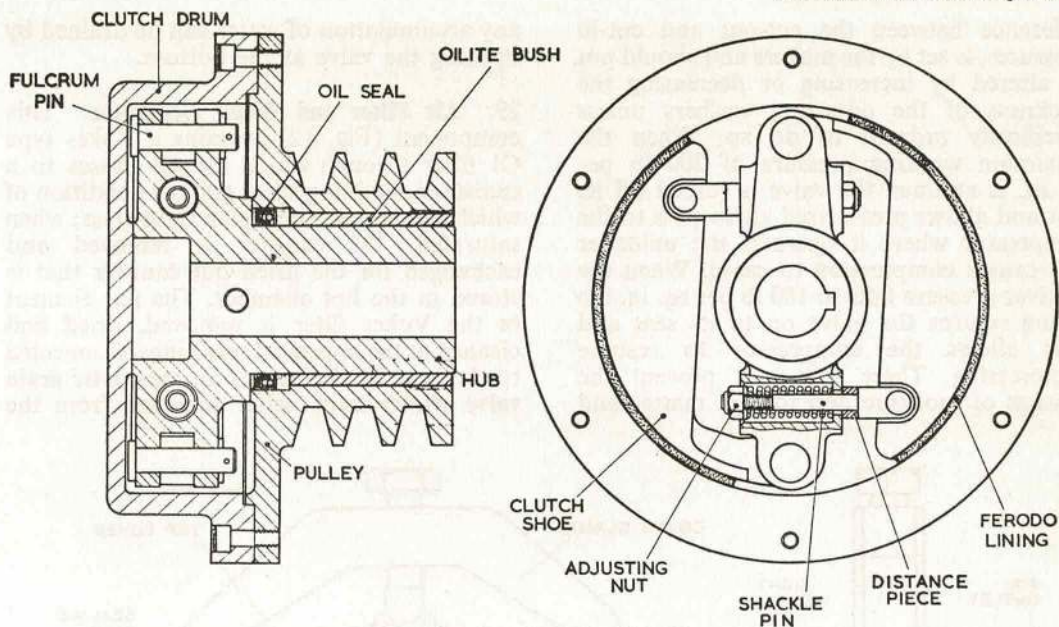

Fig. 10. AUTOMATIC CLUTCH
27. Automatic Clutch. The automatic centrifugal clutch (Fig. 10) is fitted to the engine crankshaft extension. It consists of a hub which carries the clutch mechanism, a pulley and a clutch drum. The hub is secured to the extension shaft and carries the two clutch shoes. At slow running the pulley remains stationary on the rotating hub and increase of speed forces the shoes outwards by centrifugal force so that at 800-900 r.p.m. the Ferodo shoe linings grip the bore of the drum and transfer the drive to the compressor. When the engine speed is reduced to slow-running the springs retract the clutch shoes to disengage the drive.